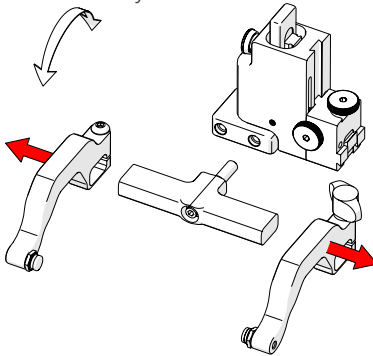

Fig. 45 - Remove probe holder arms
3. Loosen the arm clamp screw and the probe holder arm adjustment knob allowing the removal of the probe holder arms (Fig. 45).